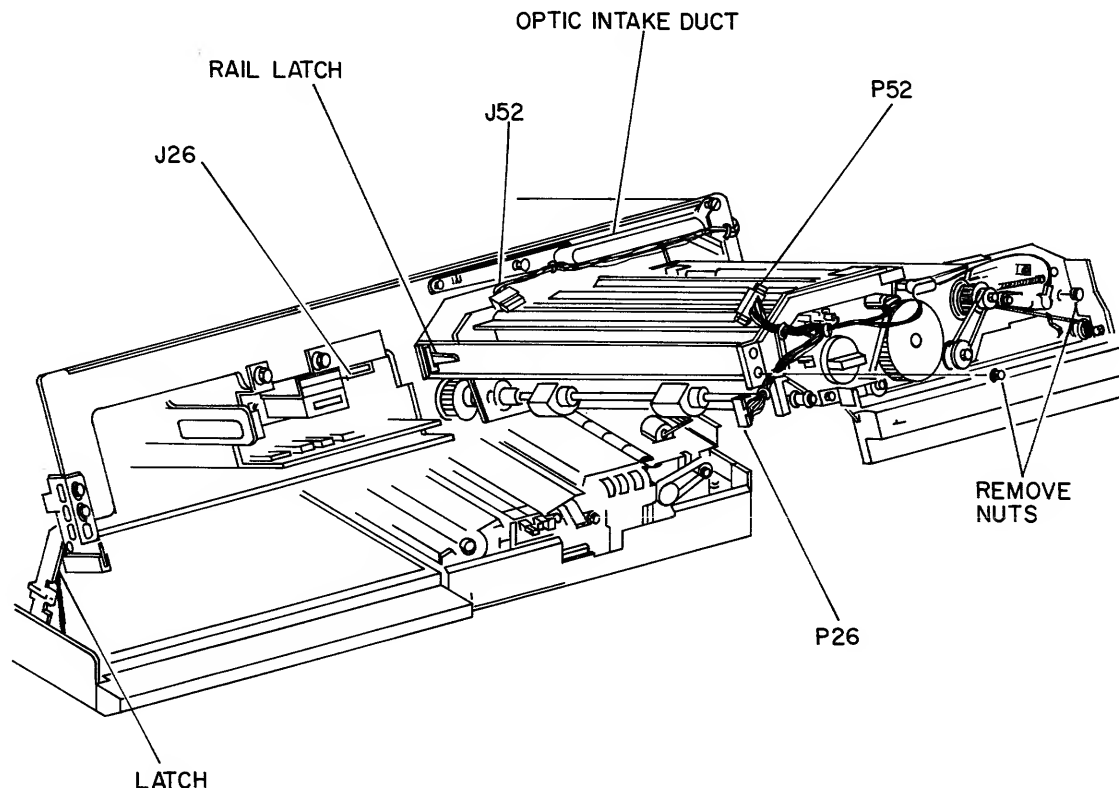

Figure 3-7. Drum Module
- b. Lower the Upper Frame and place latch in the service position (Figure 3-7).